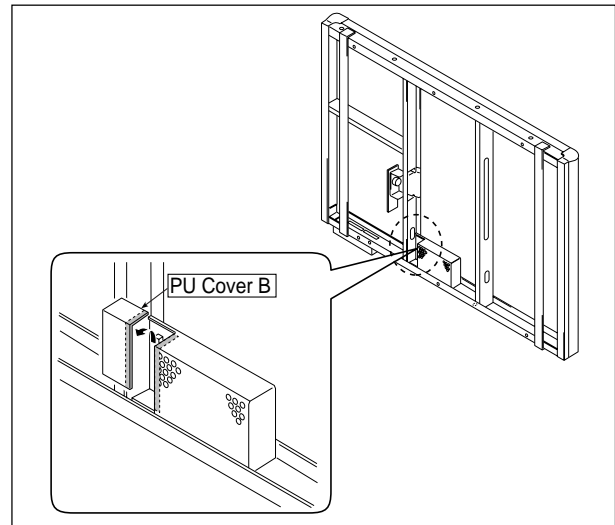

Fig. 6
- 3) Remove the Power Unit. (See Figs. 6, 7, and 8.)
1. Remove the PU Cover B shown in Fig. 6. (The PU Cover B is attached using a double-coated tape.)